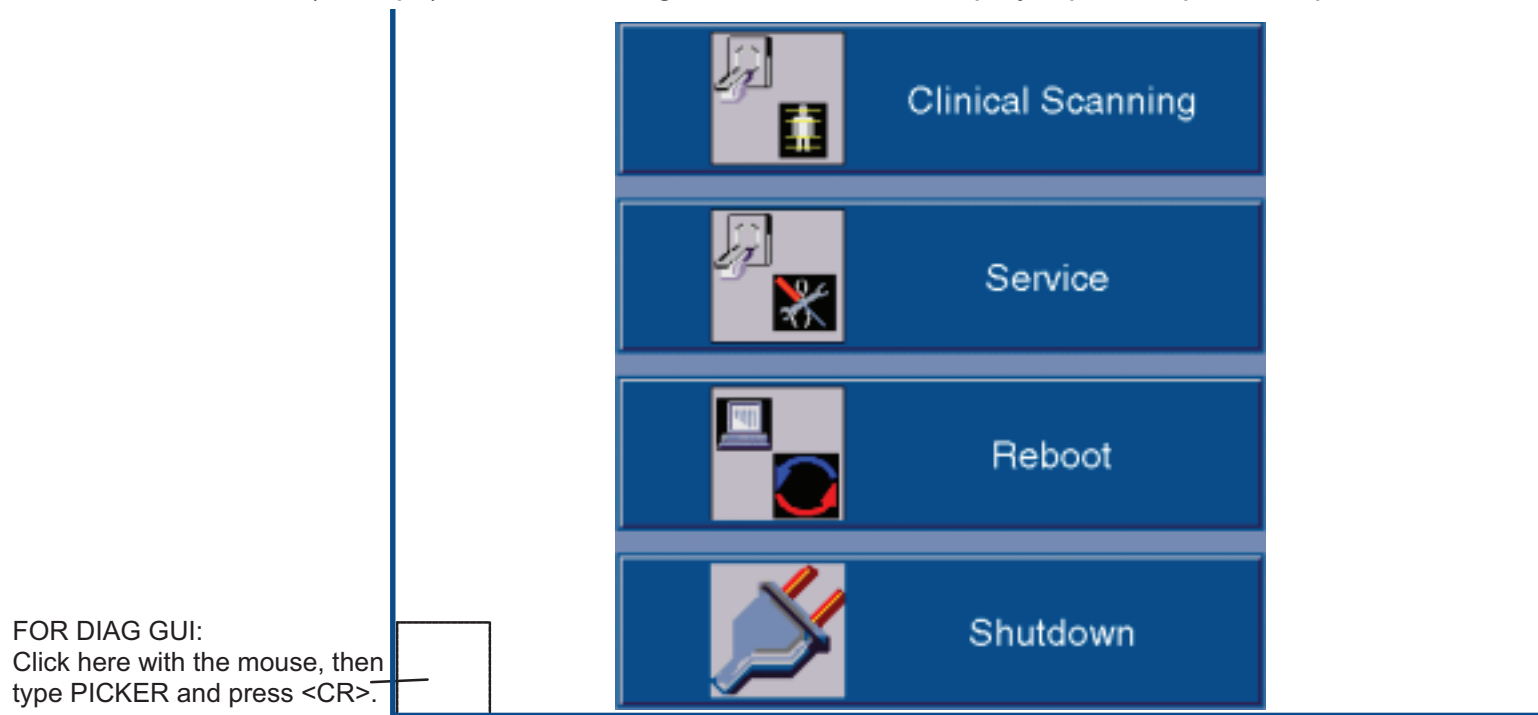
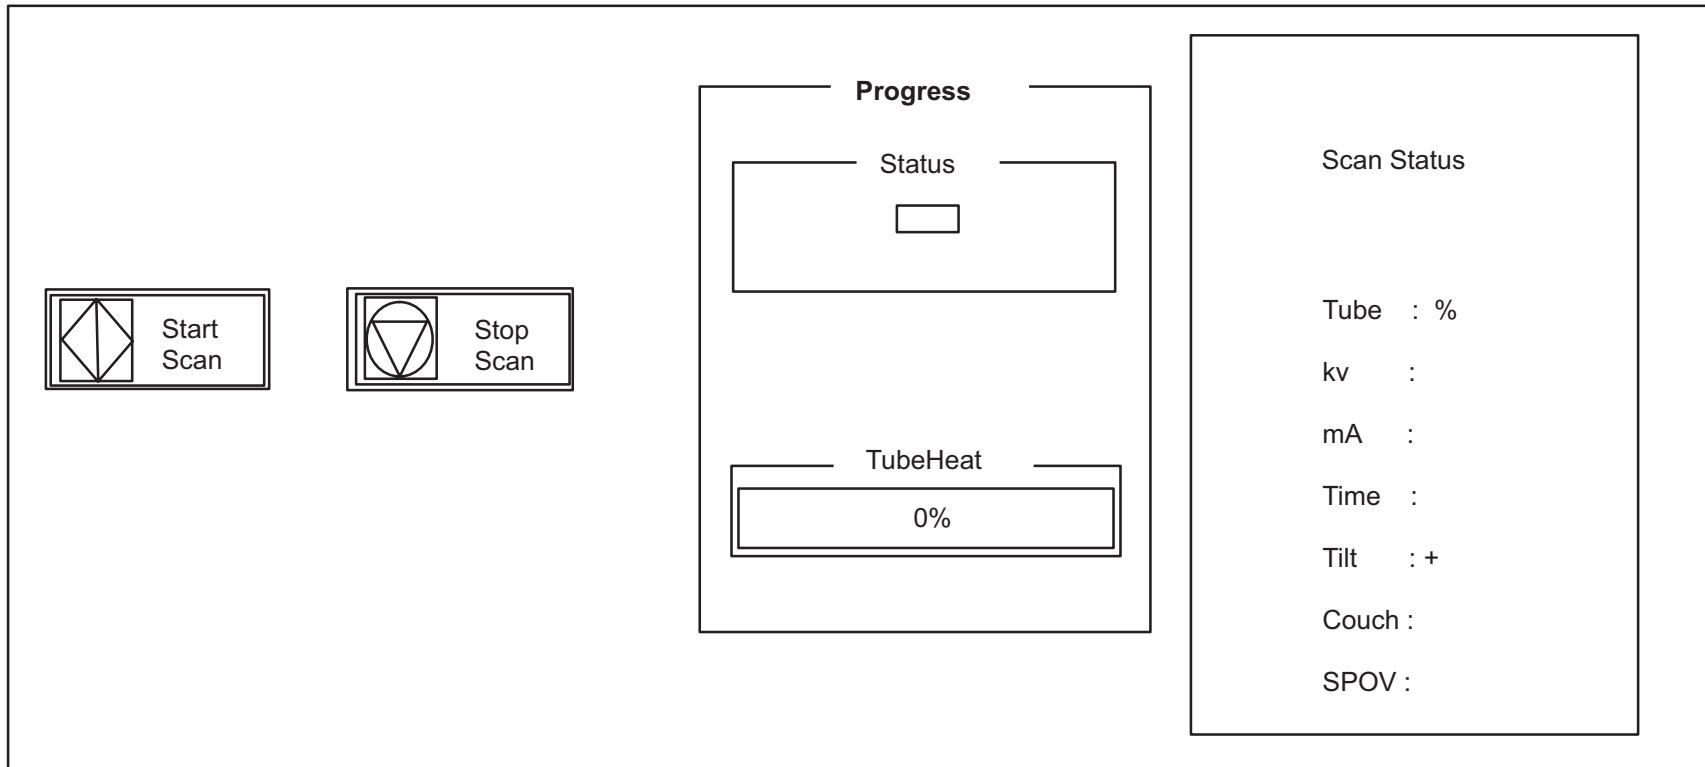

FIGURE 62 4 BUTTON SCREEN
FIGURE 63 TUBE WARM-UP STATUS WINDOW
1. Make sure the Gantry keyswitch is in the normal position. Turn the Display Tower keyswitch to the **ON** position. After the system boots, you will be prompted with the startup application display (or “4 Button Screen.”) You have **4 boot options**. Refer to Figure 62.:
3. To perform a tube warm-up, click on the Tube Warm Up button with the mouse pointer. Refer to Figure 62. This will initiate the warm-up sequence and **X-RAYS WILL BE EMITTED**. The tube warm-up status is displayed in the Tube Warmup Window. Refer to Figure 63.
1. From the 4 Button Screen (Figure 62) click on SHUTDOWN with the mouse pointer.